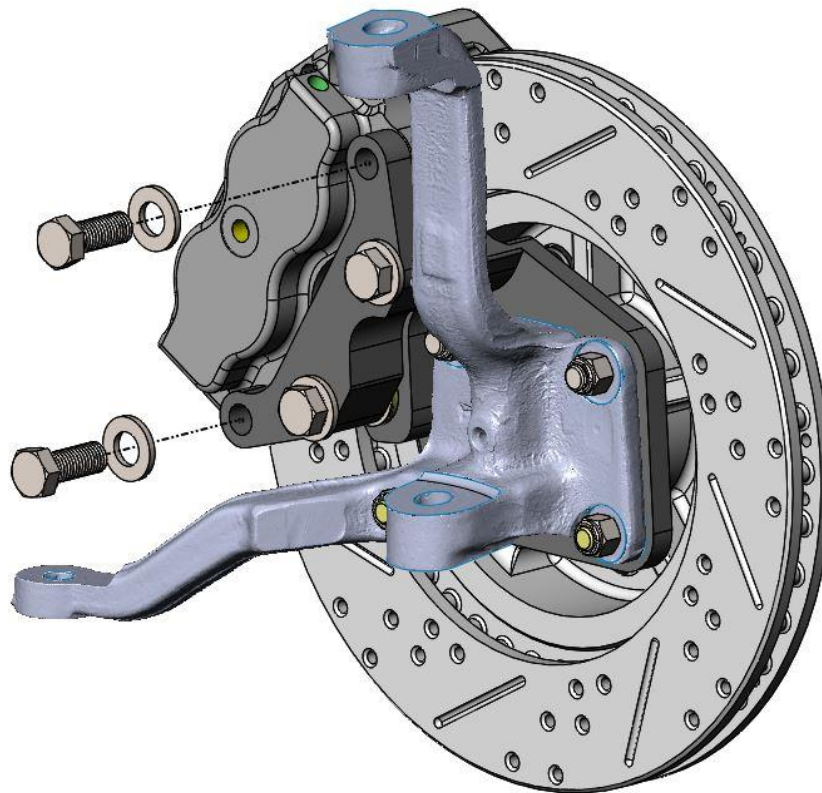

Figure 6 – Caliper Mounting Bolt Installation (Driver Side Shown)
8. With the pads removed from the caliper, position the caliper over the brake rotor and secure using the supplied M12 x 30mm Hex Head Bolts. **Snug the bolts only at this time as they may need to be removed at a later step.** Refer to Figure 6 below for reference.